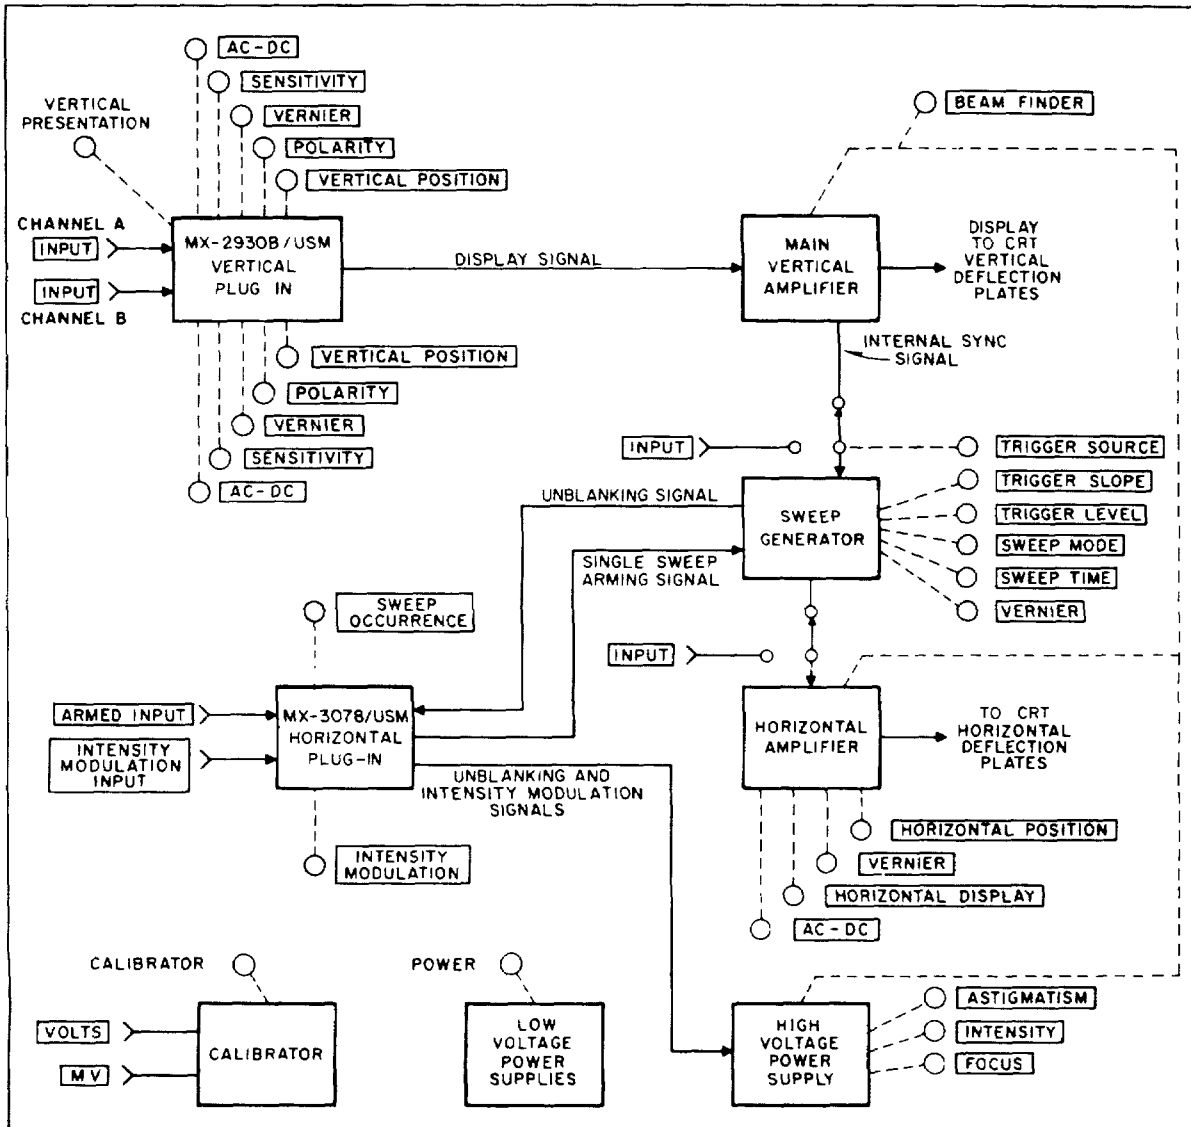

Figure 4-1. Overall Functional Block Diagram
a. **FUNCTIONAL DESCRIPTION OF OSCILLOSCOPE.** The oscilloscope produces a graphical picture of applied voltage variations on the face of a CRT. Figure 4-1 is an overall functional block diagram of the oscilloscope. The functional sections are:
- (1) Low-Voltage Power Supply
- (2) High-Voltage Power Supply
- (3) Beam Finder Circuit
- (4) Main Vertical Amplifier
- (5) Horizontal Amplifier
- (6) Sweep Generator
- (7) MX-3078/USM Horizontal Plug-In
- (8) Calibrator Circuit
- (9) MX-2930B/USM Vertical Plug-In